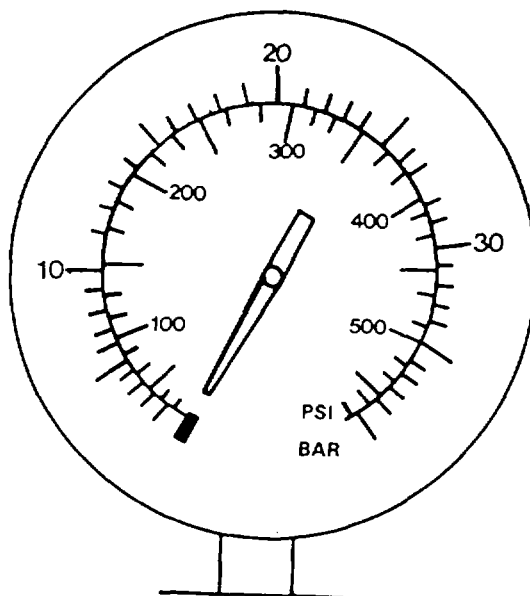

FIGURE 3-5. Oil Pressure Gauge.
- a. Check oil pressure gauge (FIGURE 3-5) at top rear of the reduction gear to ensure oil pressure when the gear clutch is engaged.